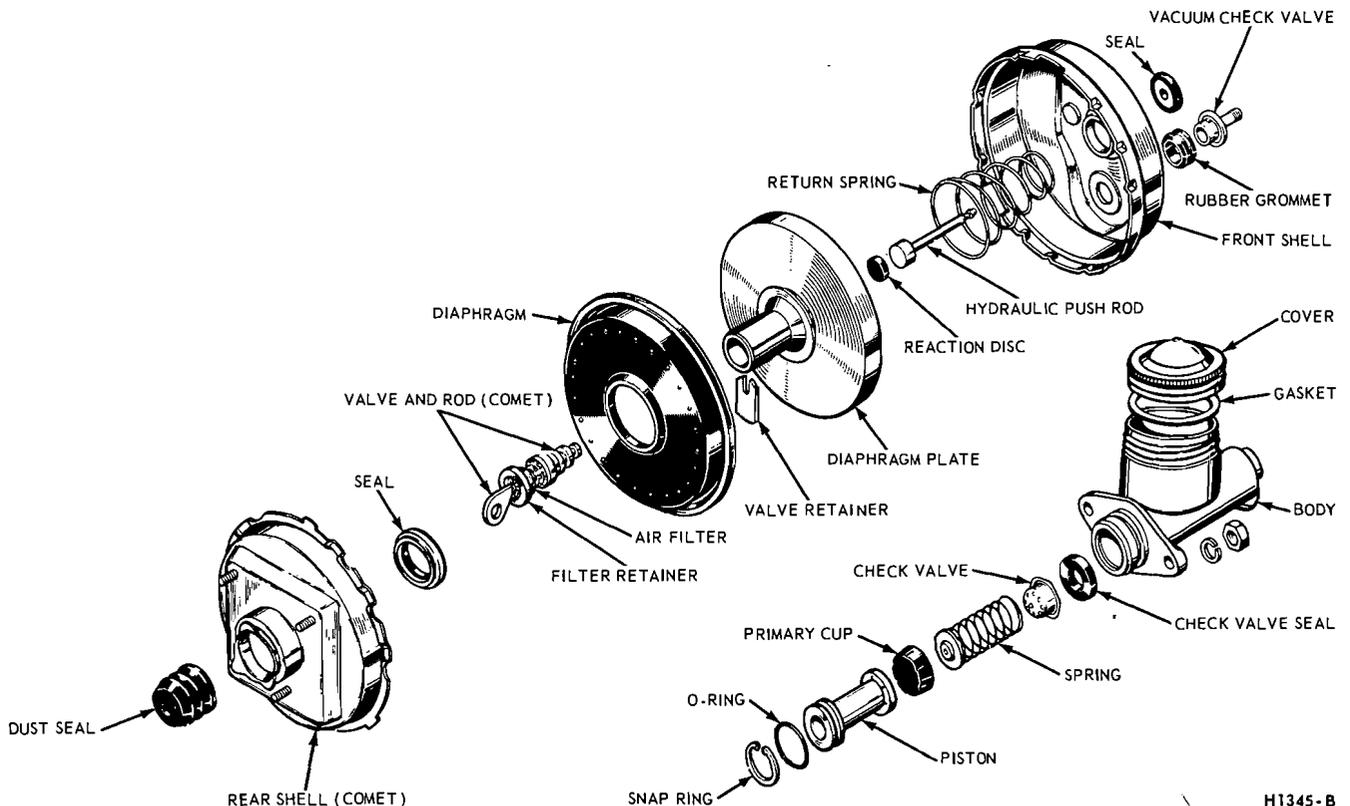

FIG. 40—Vacuum Booster Disassembled—Booster
On a Mustang, remove the retaining nuts and lockwashers and remove the mounting brackets from the rear shell (Fig. 40.)
shell with a punch or screwdriver. (Fig. 40). Discard the seal.
2. Dip a new check valve grommet (Fig. 40) in alcohol and install it in the front shell making sure that the beveled edge is toward the inside. Make sure that the grommet is seated. Dip the shoulder of the check valve in alcohol and install it in the grommet. Press the check valve into the grommet until the flange contacts the grommet.
On a Mustang, position the two mounting brackets on the rear shell studs, and install the retaining nuts and lock washers (Fig. 40).